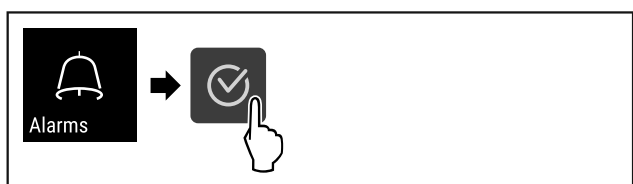

Fig. 130
- ▶ Complete steps (see Fig. 130).